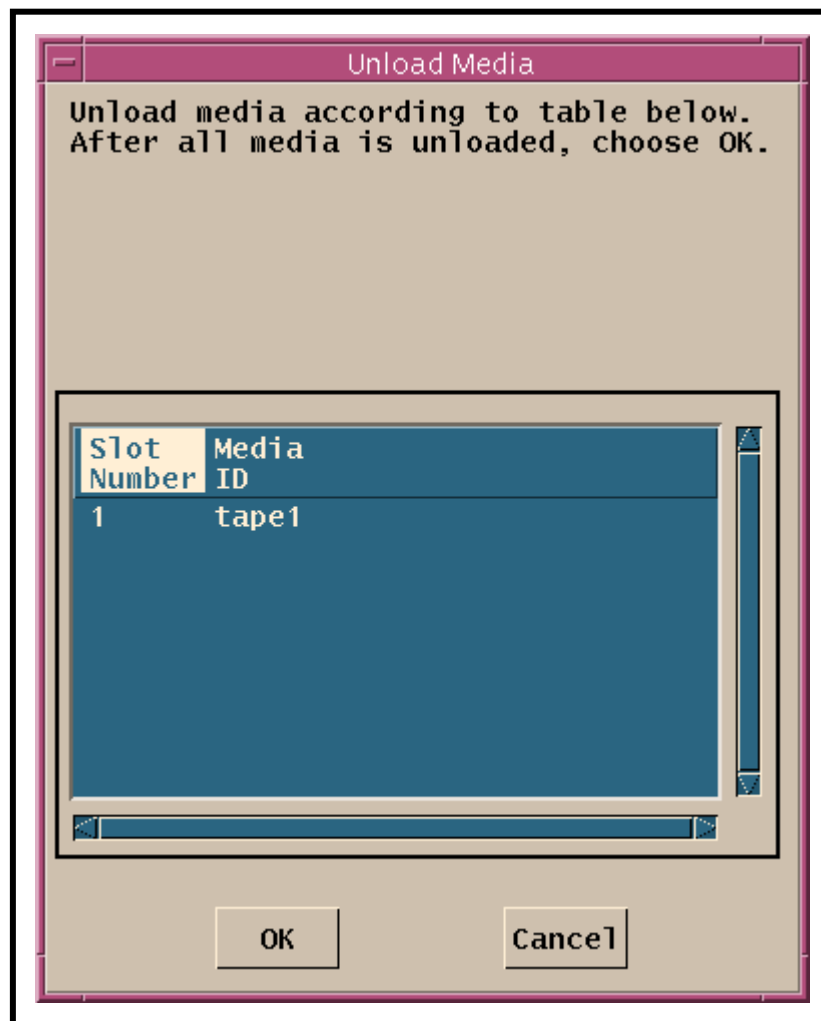

Figure 25. Unload Media Window (Stacker Management)
- If **Unload Media** is selected, a stacker management **Unload Media** (Figure 25) window is displayed.